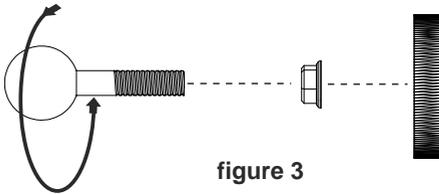

figure 3
Mount (4) & (5) as shown in figure 3. Screw the threaded ball (4) into the threaded insert on the rear of the loudspeaker (6) (loudspeaker not shown below).